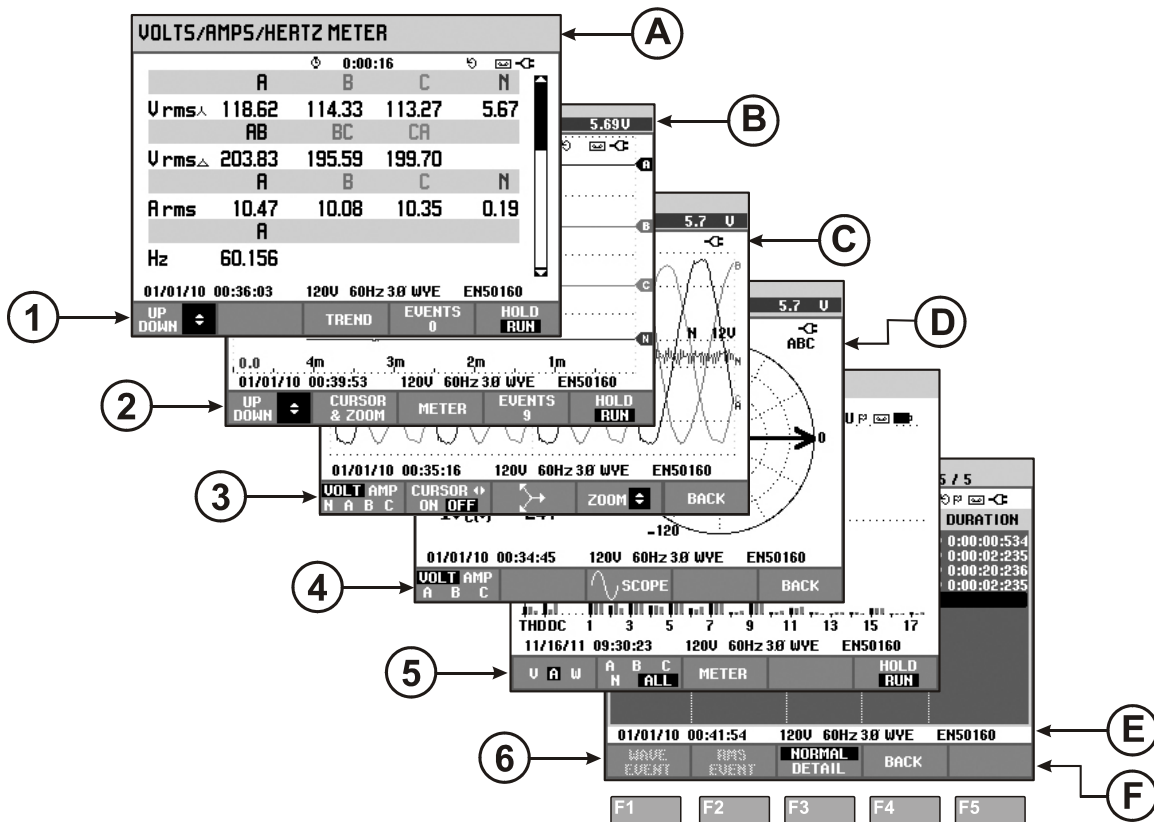

Figure 5-1. Survey of Display Types
Below you will find a brief description of each screen type and its purpose. The measuring mode it is used for is given as well as the manual chapter (Ch.) with detailed information. Bear in mind that the amount of screen information depends on the number of phases and the wiring configuration. Refer to Figure 5-1, item 1 ... 6.
- ① Meter screen: gives an instantaneous overview of a big number of important numerical measuring values. All these values are logged as long as the measurement is on. They are stored in memory when the measurement is stopped. Used for all measurements except Monitor (Ch. 16) and Power Wave (Ch. 19).
- ② Trend screen: this type of screen is related to a Meter screen. Trend shows the course over time of measuring values from the Meter screen. After selection of a measuring mode, the Analyzer starts recording all readings in the Meter screen. Used for all measurements.
- ③ Waveform screen: shows voltage and current waveforms as displayed on an oscilloscope. Channel A (L1) is reference channel and 4 complete cycles are displayed. The nominal voltage and frequency determine the measuring grid size. Used for: Scope Waveform (Ch. 7), Transients (Ch. 18), Power Wave (Ch. 19), and Wave Event in Fluke 435-II/437-II.
- ④ Phasor screen: shows the phase relation between voltages and currents in a vector diagram. The vector of reference channel A (L1) points to the positive horizontal direction. The A (L1) amplitude is also reference for the measuring grid size. Used for: Scope Phasor (Ch. 7) and Unbalance (Ch. 14).
- ⑤ Bar Graph screen: shows the density of each measuring parameter as a percentage by means of a Bar Graph. Used for: Harmonics (Ch. 10), and Power Quality Monitor (Ch. 16).
- ⑥ Events list: lists the events that occurred during the measurement with data such as start date/time, phase and duration. Used for all measurements except Power Wave (Ch. 19).
Refer to Figure 5-1, item A ... F